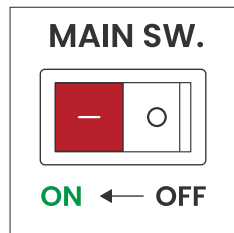

Fig.13
- Press the MAIN switch to the "ON" position (see Fig.13).